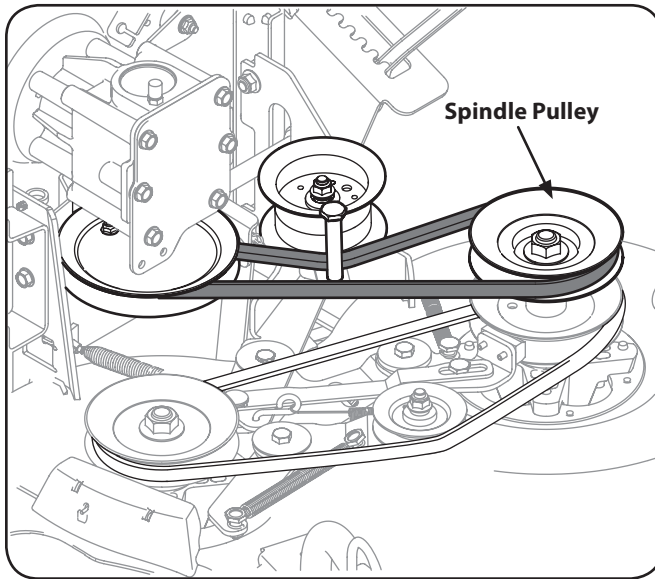

Figure 6-10
7. Remove the top belt from the drive spindle by working the belt around the spindle pulley as shown in Figure 6-10.